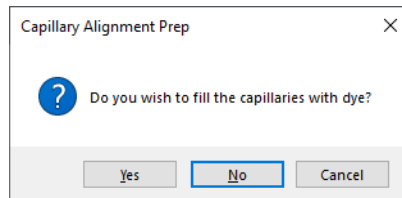

Figure 28 Capillary Alignment Prep window.
When capillary alignment is selected from the Utilities menu, the **Capillary Alignment Prep** window will open a prompt with the option to fill the capillaries with dye (**Figure 28**). This message is a carryover from the QC process and is not relevant to customer alignment methods. To continue with the capillary alignment, click no.
- 1 Select **No** when from the **Capillary Alignment Prep** window (see **Figure 28** on page 52).